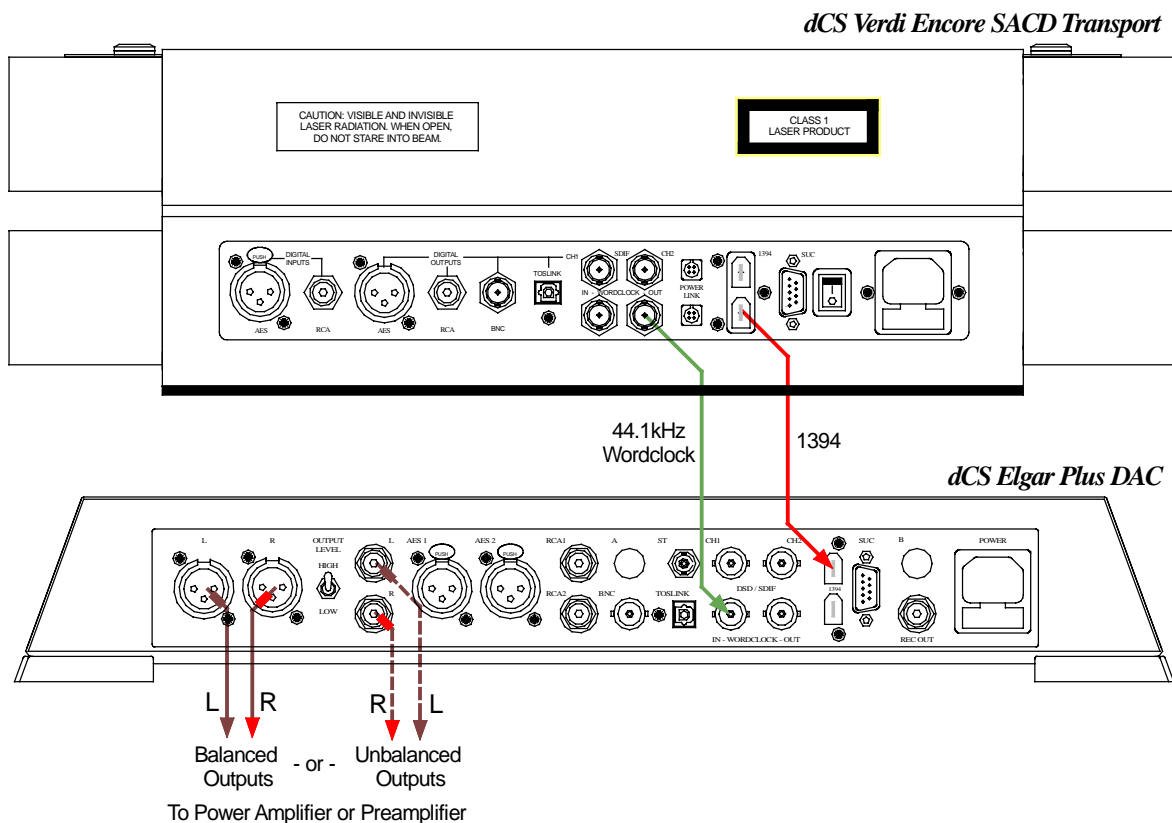

Figure 1 – Connecting *Verdi Encore* to *Elgar Plus*
This set-up is shown in **Figure 1**.
*Note that the Word Clock connections are different to those in **Figure 1**.*